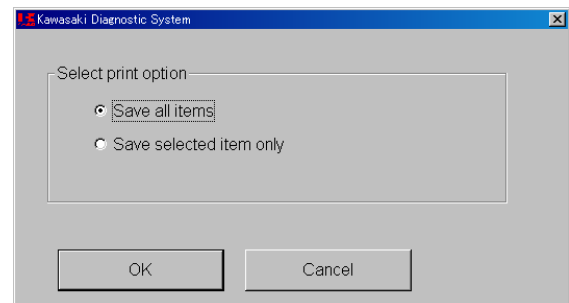

Fig. 5-12 Select Save Options
- Select an option and then select OK. Fig. 5-12